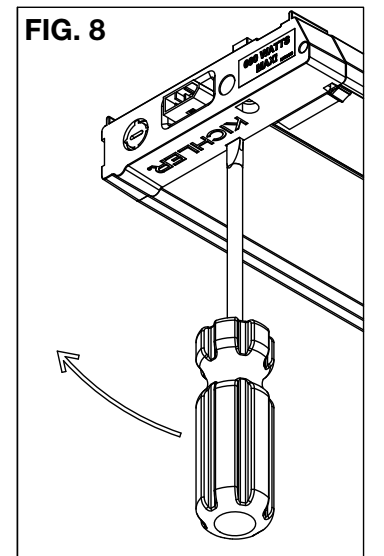

FIG. 8
2. Open wiring compartment by inserting flathead screwdriver into the slots and wedging cover open. (ref. FIG. 8)